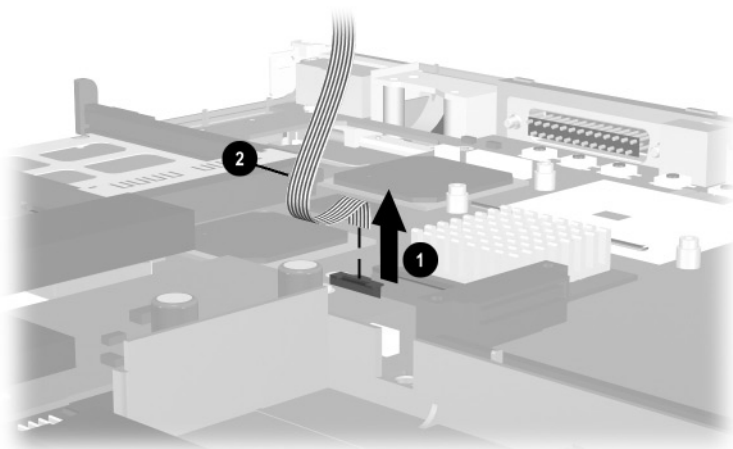

Figure 5-41. Removing the System Board-to-TouchButton Board Cable
10. Release the ZIF connector ❶ to which the system board-to-TouchButton board cable is attached and disconnect the cable ❷ from the system board (Figure 5-41).